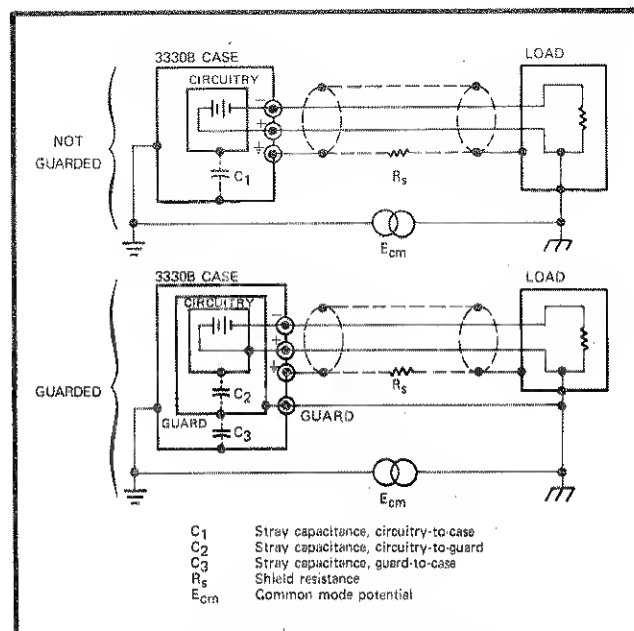

Figure 2-5. GUARDED LOAD CONNECTIONS
**2-24. COMMON MODE REJECTION RATIO (CMRR)** In non-guarded applications, a path for undesired common mode signals is created by the stray capacitance  $C_1$  (Figure 2-5) representing the circuitry-to-case capacitance in the instrument. This capacitance enables frequency dependent currents to appear in the connecting leads between the instrument and load, and in the instrument circuitry itself.